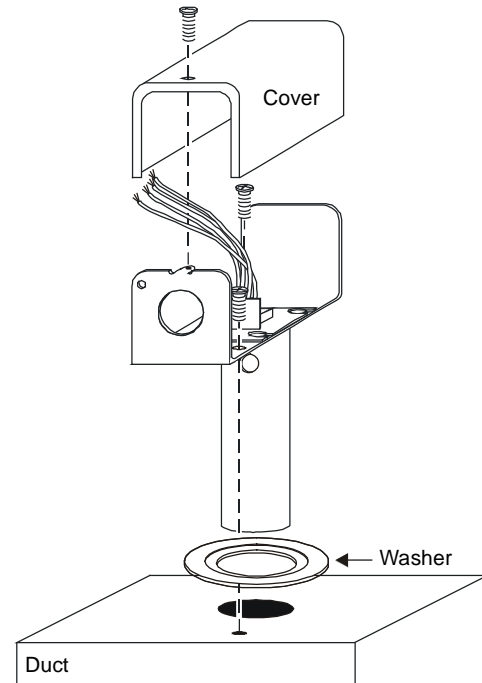

Figure 2: Mounting the Humidistat
Note: If the duct hole is larger, use the 3 in. (76 mm) washer provided when installing the humidistat. (See Figure 2.)
3. Loosen the cover screw, and lift the cover off the unit. (See Figure 2.)